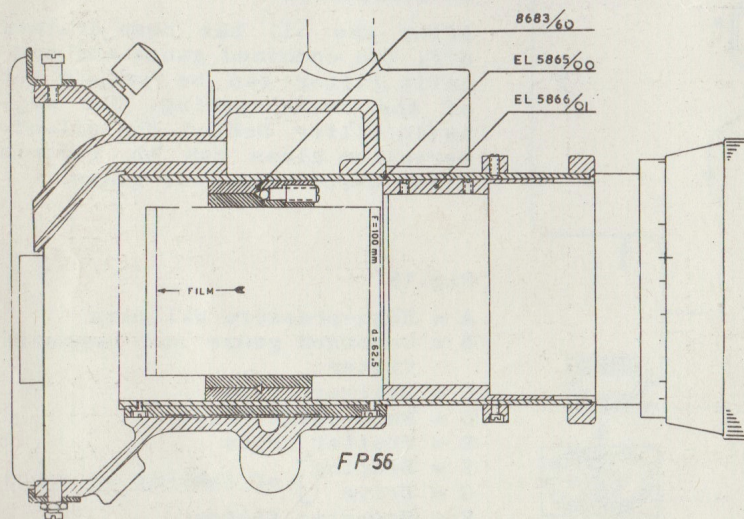

Fig. 20
b. CinemaScope projection with the FP 56 projector (fig. 20)